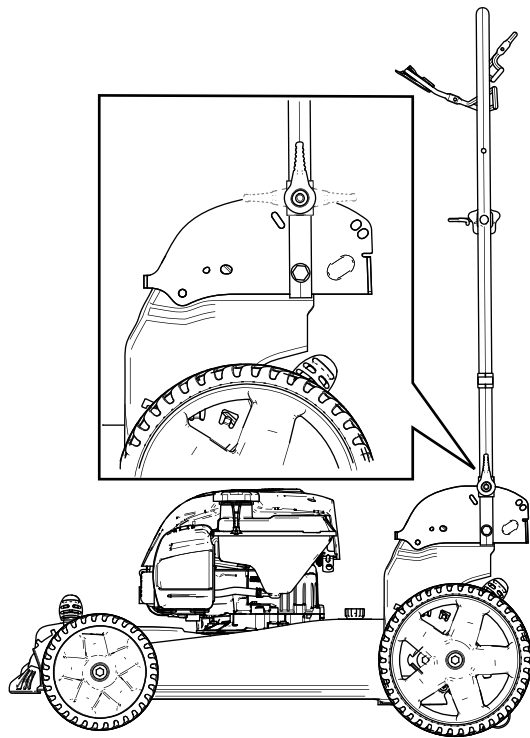

Figure 23
2. Fold the handle forward either to the vertical position or the fully forward position as shown in Figure 23.